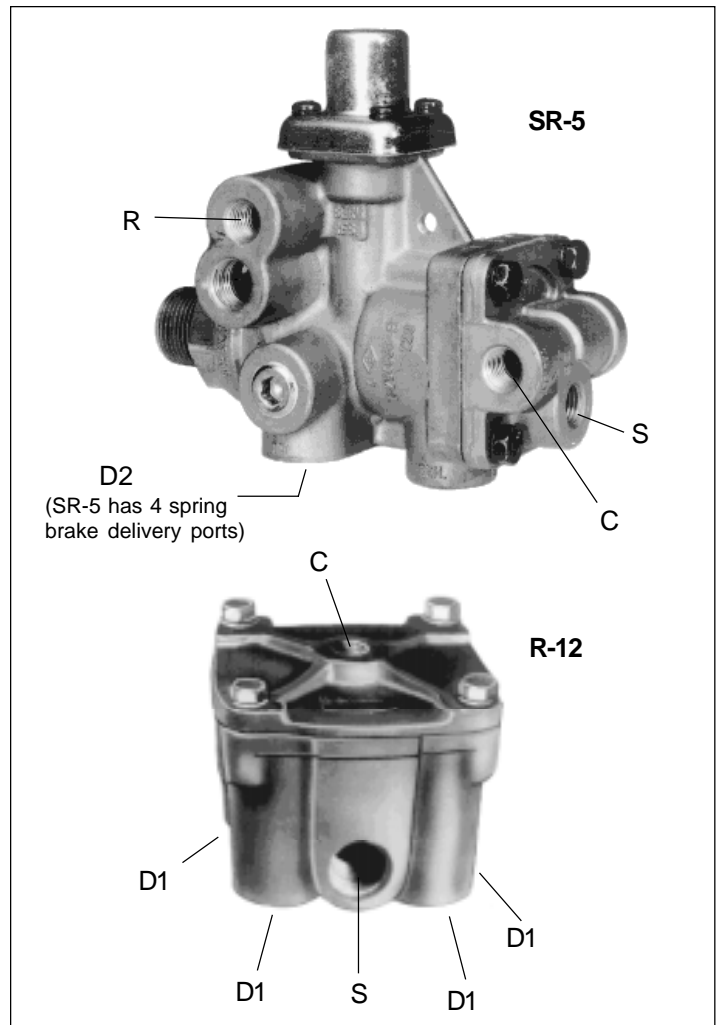

Figure 2 - SR-5 and R-12 Line Connections
1. Identify and label all air lines connected to the FF2. Label the lines according to the designations in Figure 2. Then disconnect the air lines.